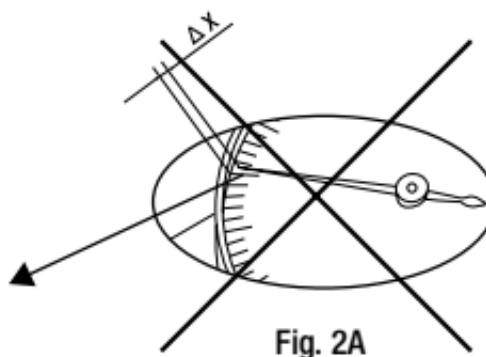
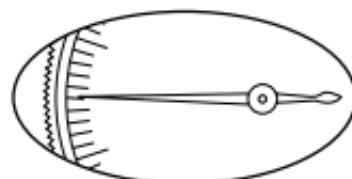

Fig. 2A
Fig. 2B
Parallax Error: Be careful when measuring to avoid the parallax error (Δx). This error occurs when the observation point is not perpendicular to the display (fig. 2A). Take the reading perpendicularly to the dial display (3) (fig. 2B).